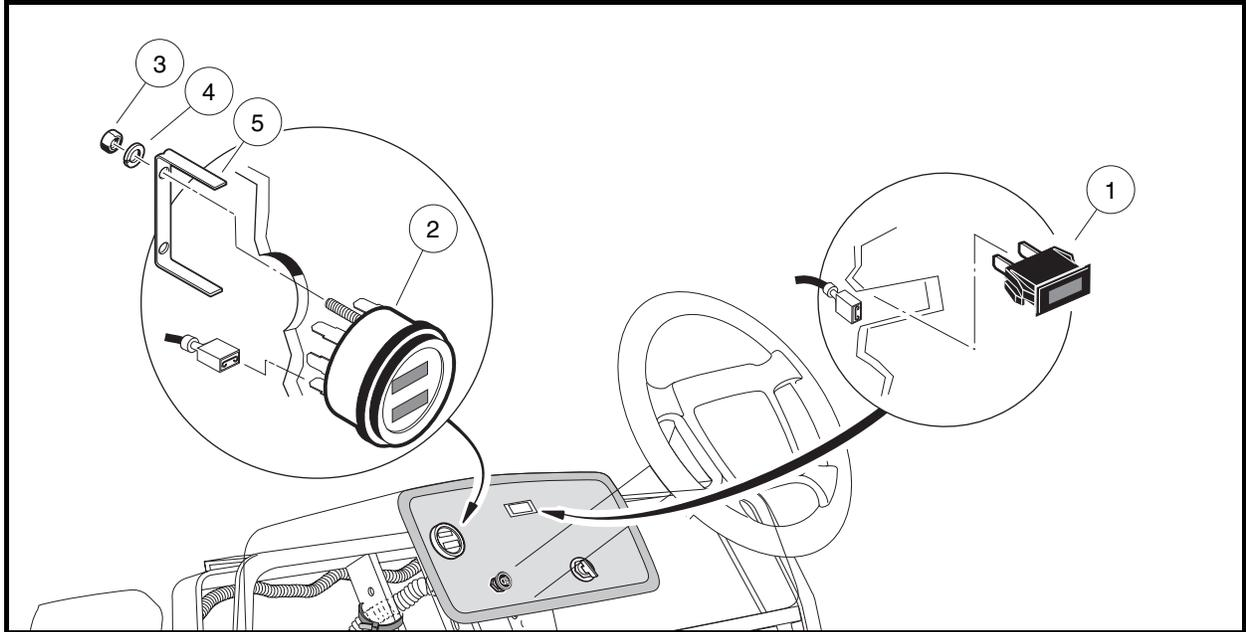

Figure 12b-10 Fuel Gauge/Hour Meter and Low Oil Warning Light Installation
1. Push a new low oil warning light into the hole in the instrument panel until the plastic tabs are securely engaged (**Figure 12b-10, Page 12b-10**).
4. Disconnect the wires from the fuel gauge/hour meter (2) (**Figure 12b-10, Page 12b-10**).
5. Remove the two hex nuts (3) and lockwashers (4) from the threaded studs on the back of the gauge. Remove the mounting bracket (5) from the back side of the gauge/meter, and remove it from the instrument panel.